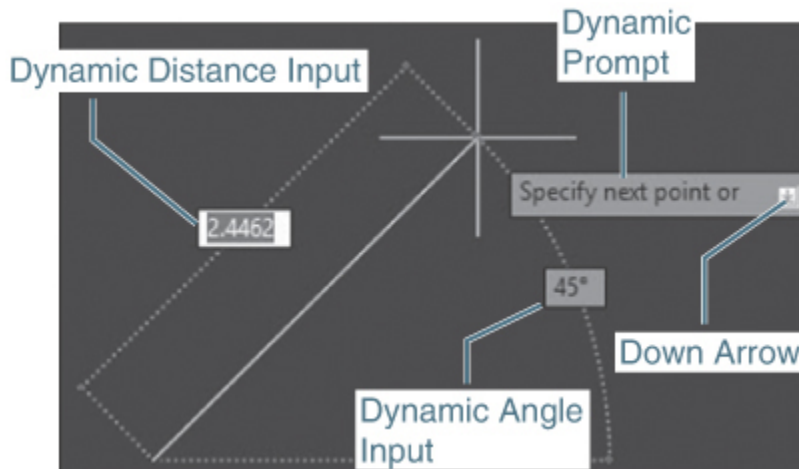

Figure 2-10
- 4 Pick anywhere on the screen to start the line. You should now have a **rubber-band** line extending from the first point you specified along with dynamic information about the length and direction of the rubber-band line (see Figure 2-10).